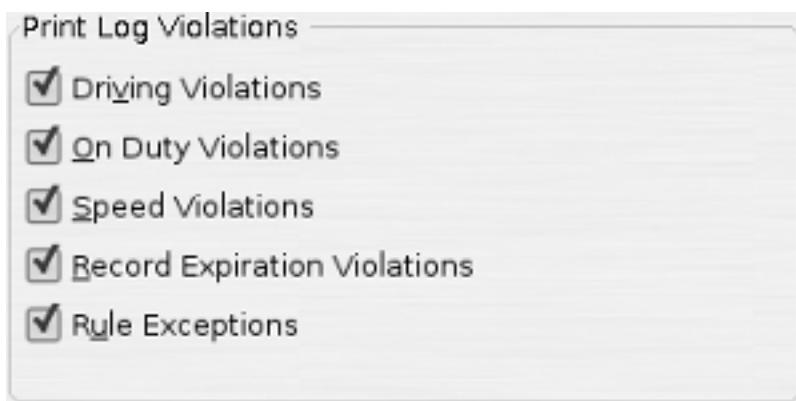

Figure 7.11. Log Violation Print Settings
2. In the "Print Log Violations" section see Figure 7.11, "Log Violation Print Settings" a list of all the log violations that trucklogger generates are listed. Beside each violation type is checkbox. When the checkbox is checked any log violations of that type that occurred on the log date being printed will be printed on the log. When the checkbox is NOT checked the log violation will not be printed on the log.